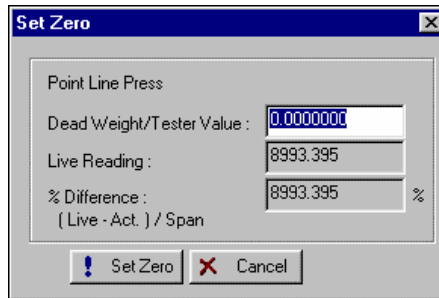

Figure 8-4. Set Zero Calibration Example
7. Click **Calibrate** under the desired input to calibrate Diff Press, Stat Press, or Temperature. This displays the Set Zero calibration window as in Figure 8-4.
9. Enter the applied value in the **Dead Weight / Tester Value** field of the Set Zero dialog. Refer to Figure 8-4. For static pressure on an absolute-pressure device, remember to enter the actual current atmospheric pressure, such as 14.73 psi.